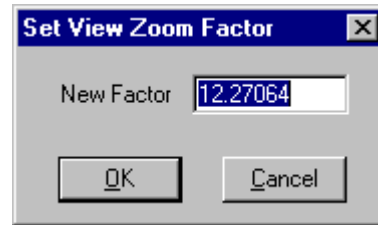

Figure 3.11 The *Set View Zoom Factor* Dialog Box
- ⇒ Function: Bringing up the *Set View Zoom Factor* dialog box as shown in Figure 3.11 for the user to change the zoom factor